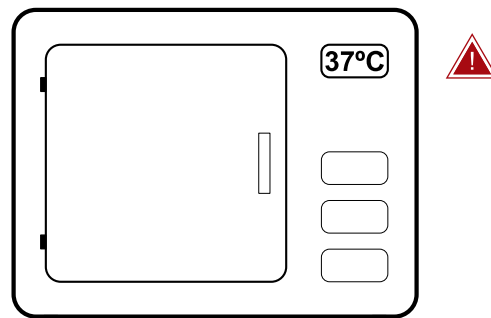

Figure 4. Incubate the covered device at 37°C for 30 minutes.
7. Incubate the covered device at 37°C for 30 minutes (Figure 4).